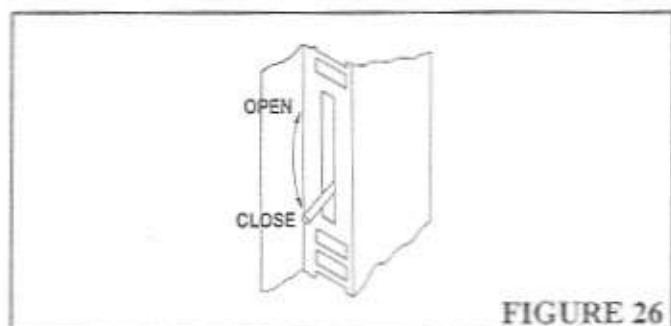

FIGURE 26
STEP 5: Insert the handle into the case as shown in Figure 14. Move the air gate assembly forward into position. Make sure the handle extends through the vertical slot in the front frame side as illustrated in Figure 26.
The outside combustion air kit is an optional accessory installed at the time of fireplace installation. It aids greatly in the efficient operation of your fireplace. It should be opened during operation of your appliance. See Figure 26 for operation and location of the appliance's outside air kit.